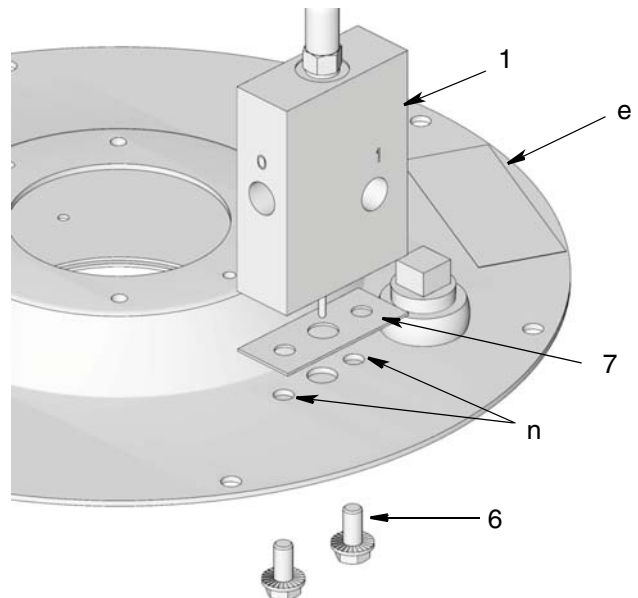

FIG. 8
4. Align gasket (7) with holes (n) in cover (e) (FIG. 8).
5. Install Auto-Fill Shut Off Valve (1) over gasket (7). Install bolts (6) through holes (n). Tighten bolts securely. See FIG. 8.